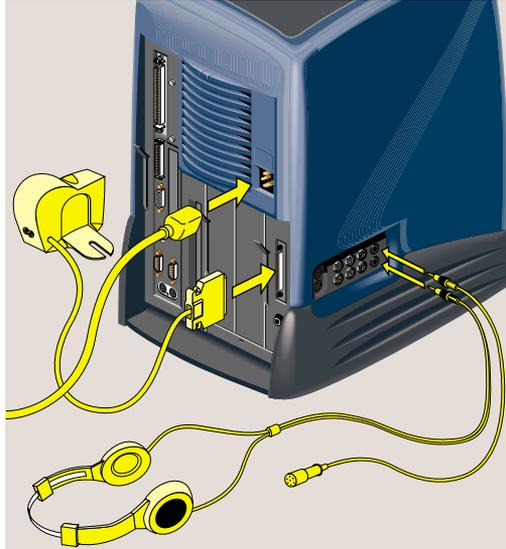

Figure 3-11 Connecting the Power Cable and Other Cables
11. Reconnect the power cable to the rear of the workstation. Reconnect any audio and video cables you removed from the side panel of the workstation (Figure 3-11).